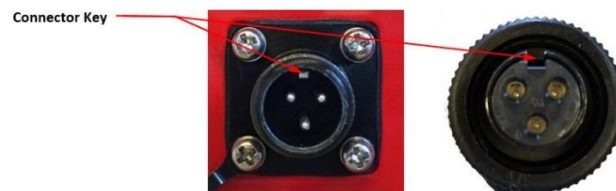

Figure 5-7: Connector Keys
2. Connect the power cable to the AC 110V power connector on the Signal Booster, Figure 5-7.
The Signal Booster connector and the cable connector are keyed as shown in Figure 5-7.